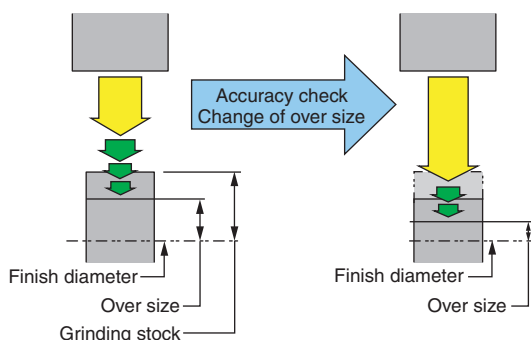

Fig. 7 Cycle interruption and infeed function
1) When a high precision part is ground, the operators will grind the part oversized. They next measure the part and grind the remaining stock on the part. Adjustment to the appropriate grinding conditions and dimensions should then be made. Air cut time will be long because grinding was half-done to the required stock. On the other hand, the cycle interruption and infeed function allows a quick feeding down to the position where the last grinding was completed, which results in a shortened cycle time. In addition, this function allows re-grinding to repeat as many times as desired by setting it as "finish grinding remains" and selecting the desired oversize dimensions (Figs. 7 and 8).